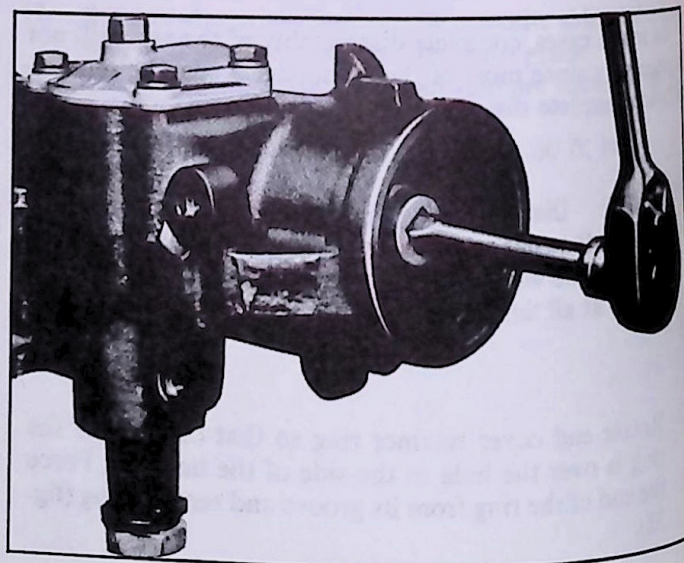

Fig. 33—Removing End Plug
3. Remove the rack-piston end plug as shown in Figure 33.